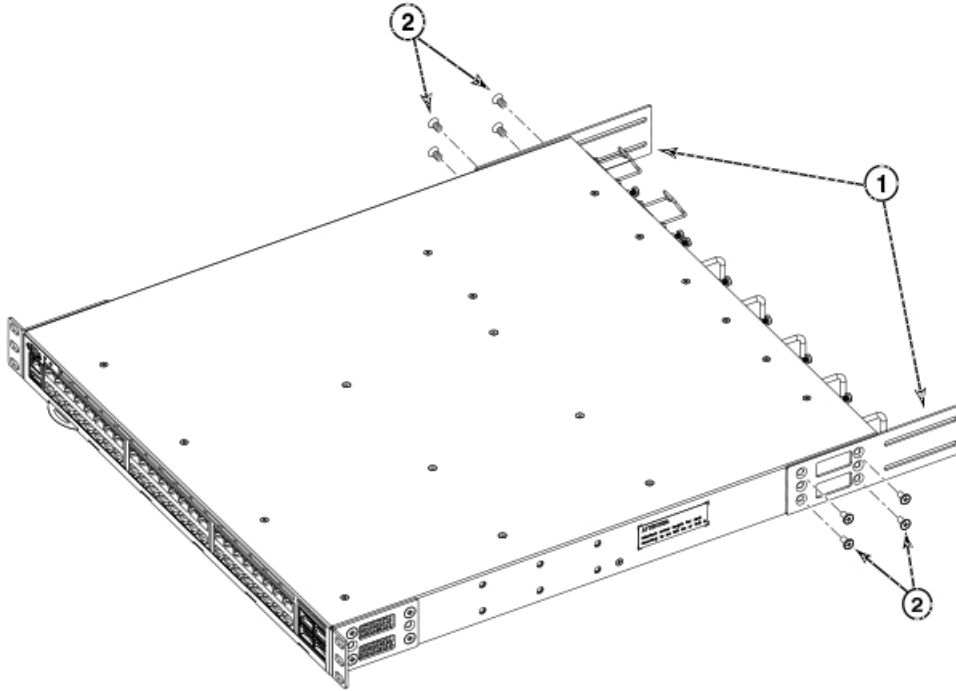

Figure 5. Attaching the extension brackets to the device
2. Position the right extension bracket along the side of the device as shown in Figure 5 on page 19.